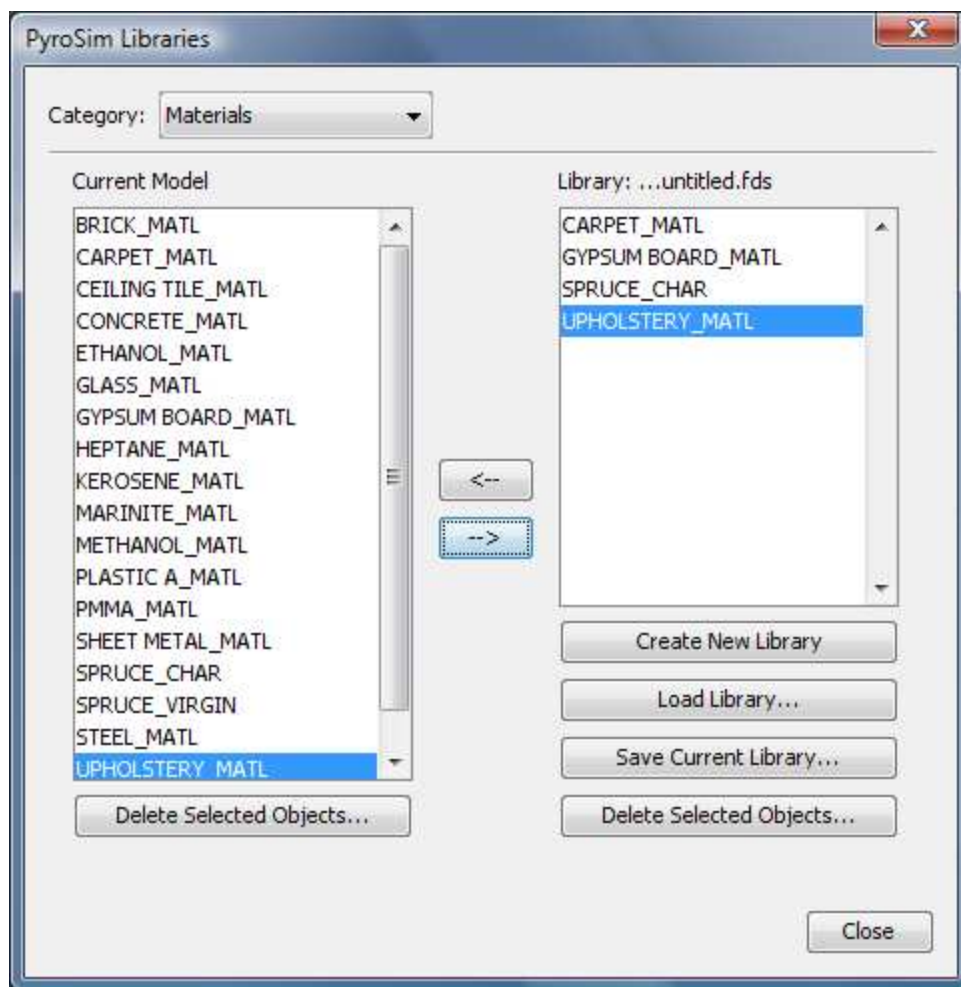

Figure 152. Creating a library of materials
2. Select the **Category** that you want to manage and move selected items from the **Current Model** into the **Library**, Figure 152.